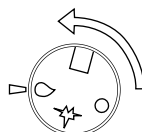

Figure 2
- Turn gas valve control knob to "MAIN" position (*see figure 2*) and check burner lights.